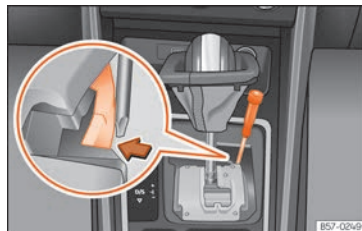

Fig. 246 Gear selector lever: manual release from the parking position.
- Using the flat part of a screwdriver, press the yellow tab sideways and keep it pressed down »» Fig. 246.